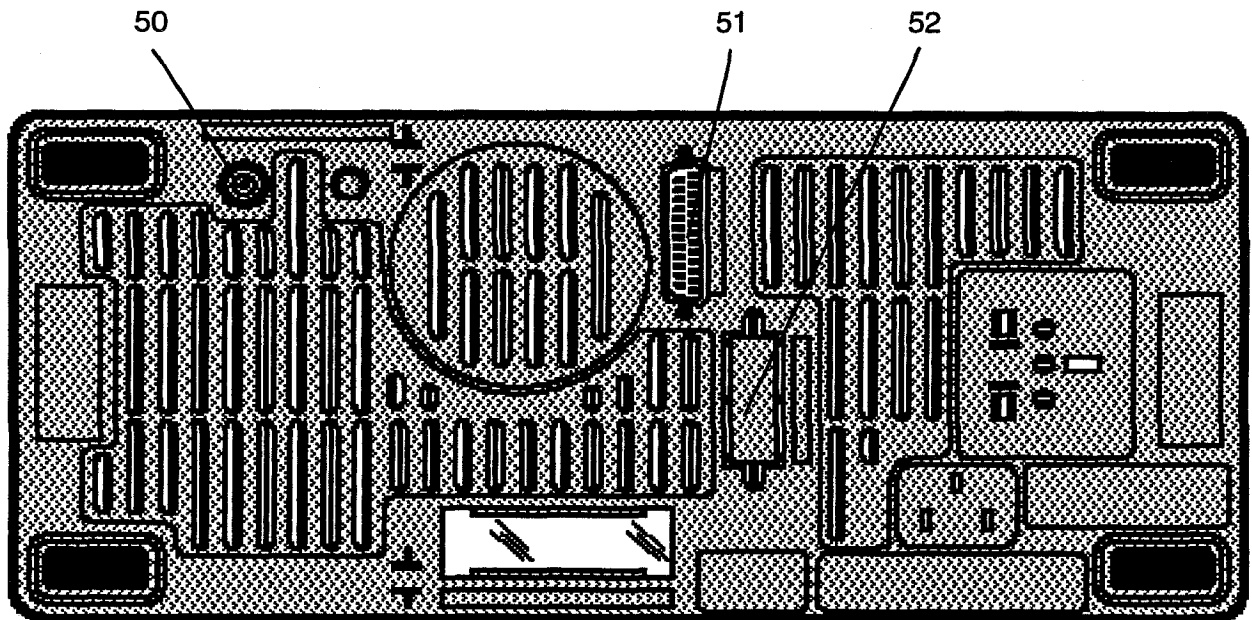

Figure 9
- (2) **TRACE ROTATION** - Adjustment of the parallelism of traces with respect to the horizontal axes of the reticle (this adjustment is made using a screwdriver).
- (50) **Z MODULATION** - Input through BNC connector (50) on the back (figure 9), of a TTL signal to cancel the trace in digital or analog mode (high level 5 V = trace on, low level 0 V = trace off) and light modulation with proportional control. Furthermore, this input enables the use of an external time reference signal (marker).
- (51) **RS232 or CENTRONICS INTERFACE** - Single output connector on the back (automatic configuration by detection of the connected peripheral).